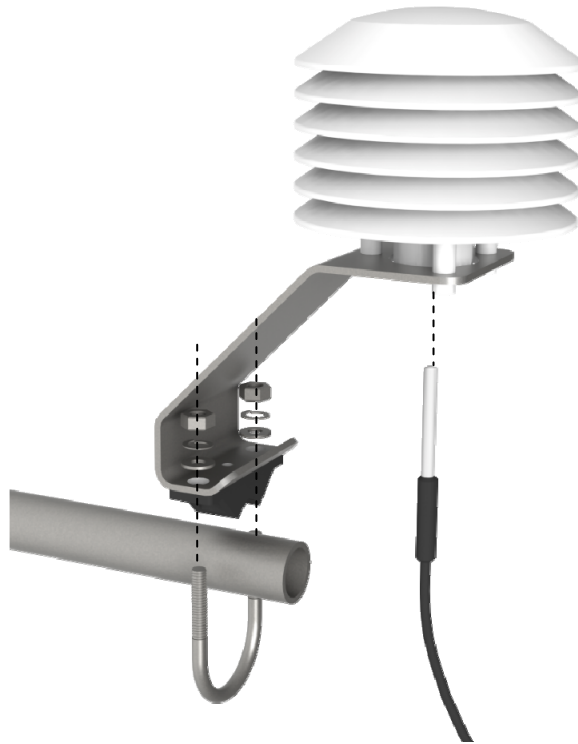

FIGURE 6-4. Mounting the IRGASON Temperature Probe
8. Mount the IRGASON temperature probe so that it measures temperature at the same height as the sample volume of the IRGASON. To do this, first attach the R.M. Young 41303-5A 6-Plate Solar Radiation Shield (pn 4020) to the mast with the included u-bolt. Next, insert the end of the probe into the hole on the bottom of the shield. Tighten the screws to hold the probe in place. See FIGURE 6-4. For more detailed information about the temperature probe installation and specifications, refer to the *Model 107 Temperature Probe* manual, which is available at www.campbellsci.com.